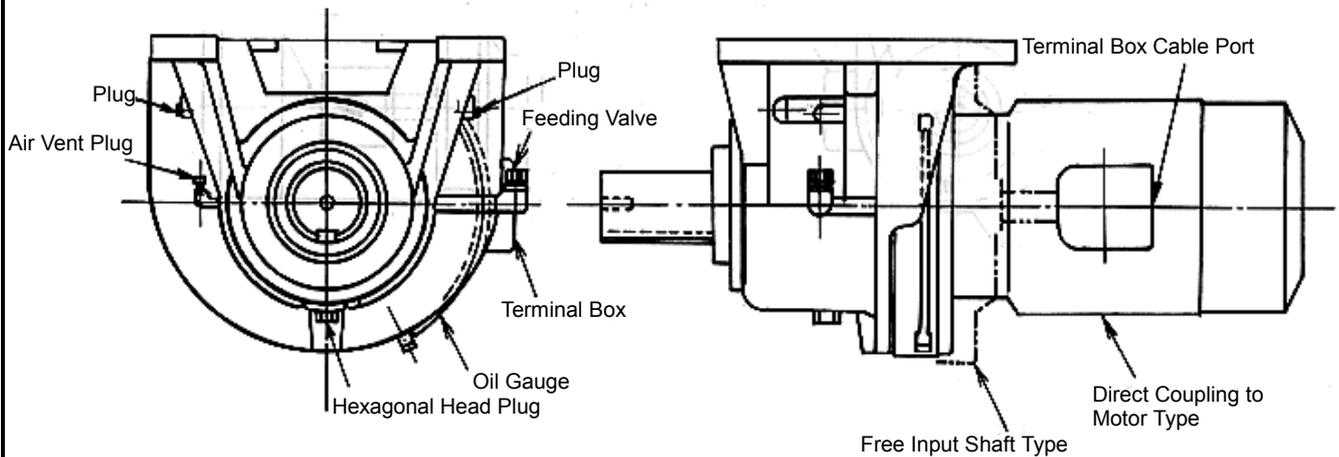

Figure 1
- 1) Drill holes in the ring gear housing and install oil gauge. (Refer to Figure 1 for location.)
- 2) Install oil filler plug and air vent plug on horizontal casing as shown in Figure 1. Plug all other tapped holes of horizontal casing, particularly the oil drain hole should be plugged using a hexagonal head plug.
- (a) Terminal boxes should be installed as indicated in Figure 1.